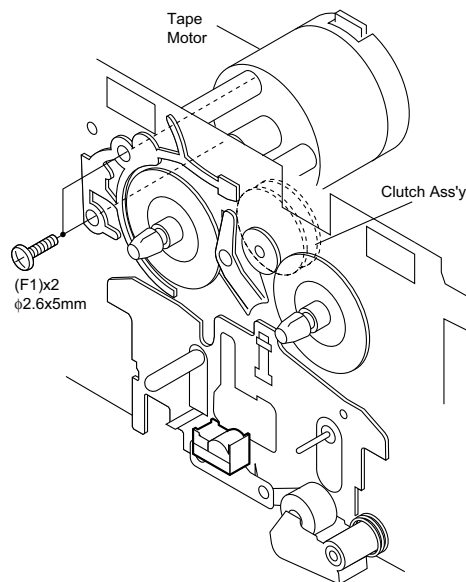

Figure 5
1.6. How to remove the motor (See Fig. 5)